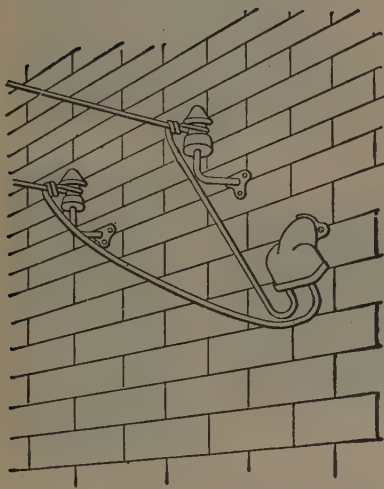

FIG. 903.—Service entrance to interior conduit system; showing method of preventing moisture reaching the interior of the conduit system.
7. Where a conduit line terminates on the outside of a building some suitable fitting such as a pipe cap should be used, as shown in fig. 903, to prevent the entrance of moisture into the conduit system. A variety of devices suitable for this purpose are available at supply houses, but those having porcelain covers which spread the wires the proper distance apart are the most satisfactory.